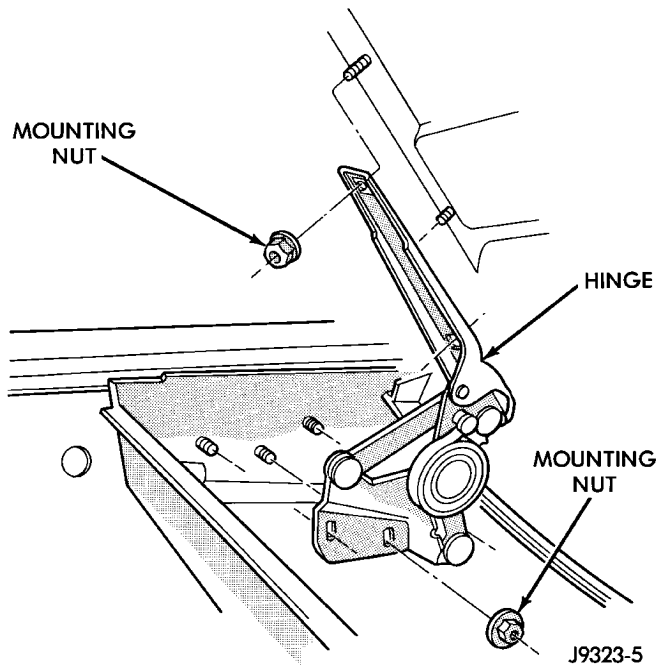

Fig. 2 Hood Hinge
(2) If equipped, disconnect underhood lamp connector.
(3) Mark location of the hood hinges and hinge shims (Fig. 2) for installation alignment.
(4) Remove nuts that attach hinges to hood. Remove hood from vehicle with aid of a helper.
- (1) Remove hood from vehicle.
- (2) Remove hinge retaining nuts from studs (Fig. 2).
- (3) Remove hinge from inner cowl side panel.